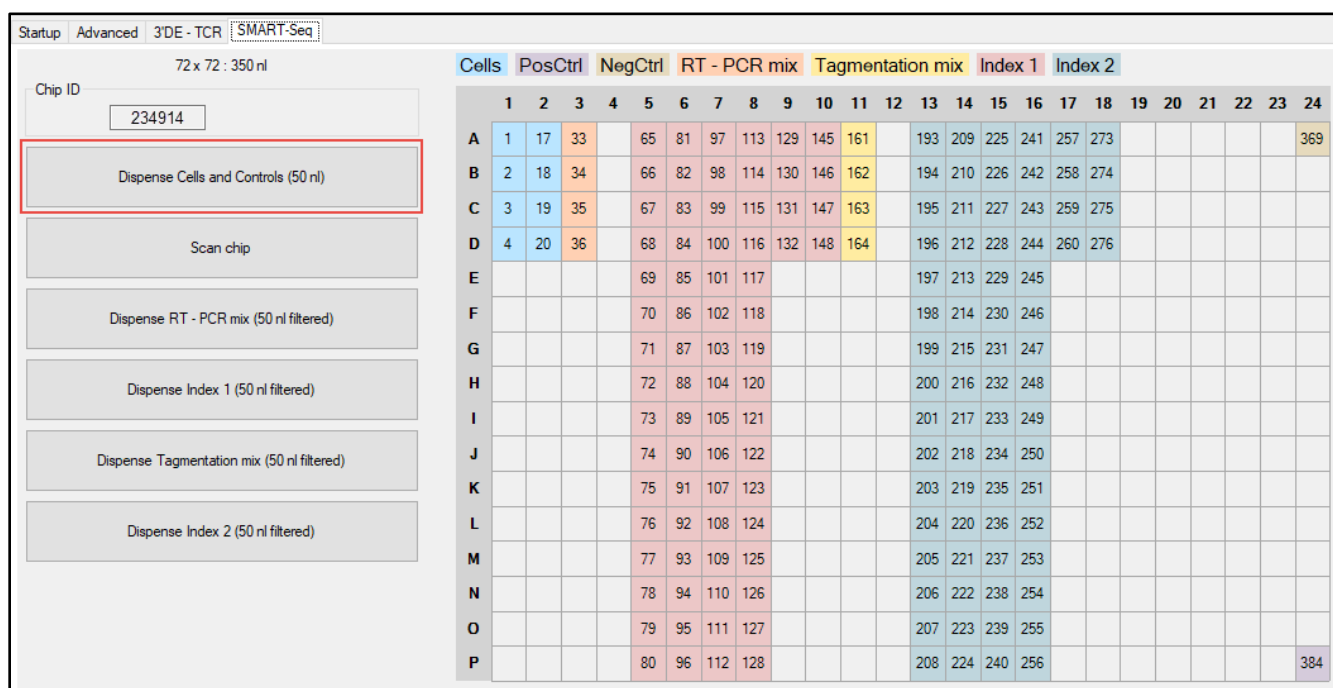

Figure 7. Using CELLSTUDIO software to dispense cells into the ICELL8 350v Chip.
12. In CELLSTUDIO software, click the [Dispense cells and Controls (50 nl)] button (Figure 7).
2. Place the imaged chip into an empty ICELL8 Chip Holder that has been prechilled at -80°C (Figure 7). The chip holder should click closed and should close evenly, indicating a proper magnetic seal. Make sure that the imaging film is well sealed over the chip.